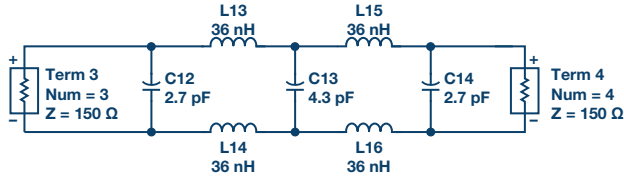

Figure 18. Differential low-pass filter with real-world value.
3. Optimize the components' ideal value with real-world value (see Figure 18).